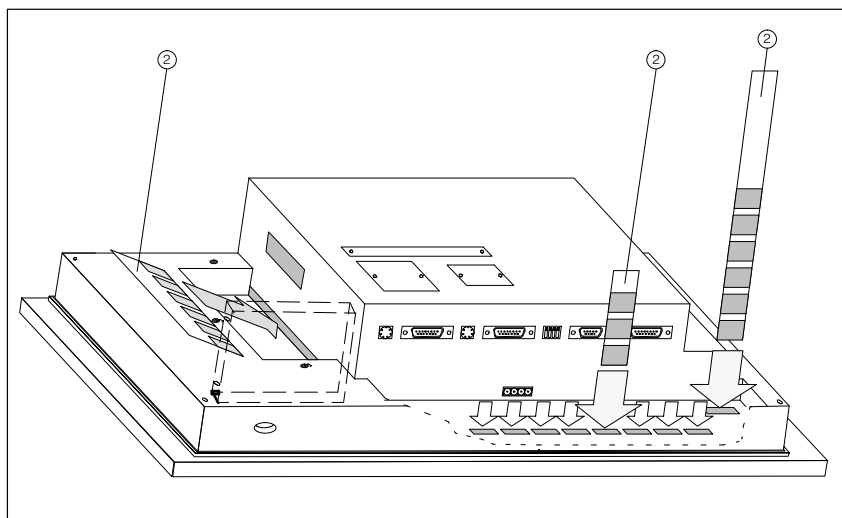

Figure 2-5 Inserting the labeling strips
4. Insert the strips ② – with the labeling facing downwards – into the slits on the front panel (refer to Figure 2-5).